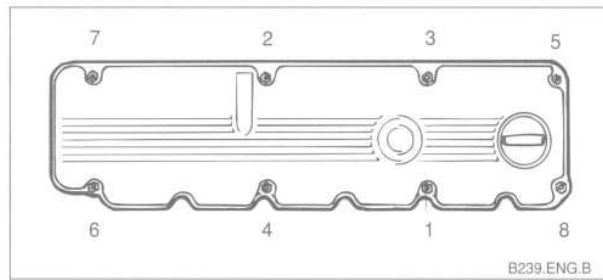

Fig. 3. Cylinder head cover mounting nut tightening sequence.
6. Tighten the mounting nuts in the sequence shown in Fig. 3. Reconnect the breather hose.
6. Installation is the reverse of removal. Be sure to reconnect all hoses. Tighten the mounting nuts and bolts using a similar sequence as shown above in Fig. 3.